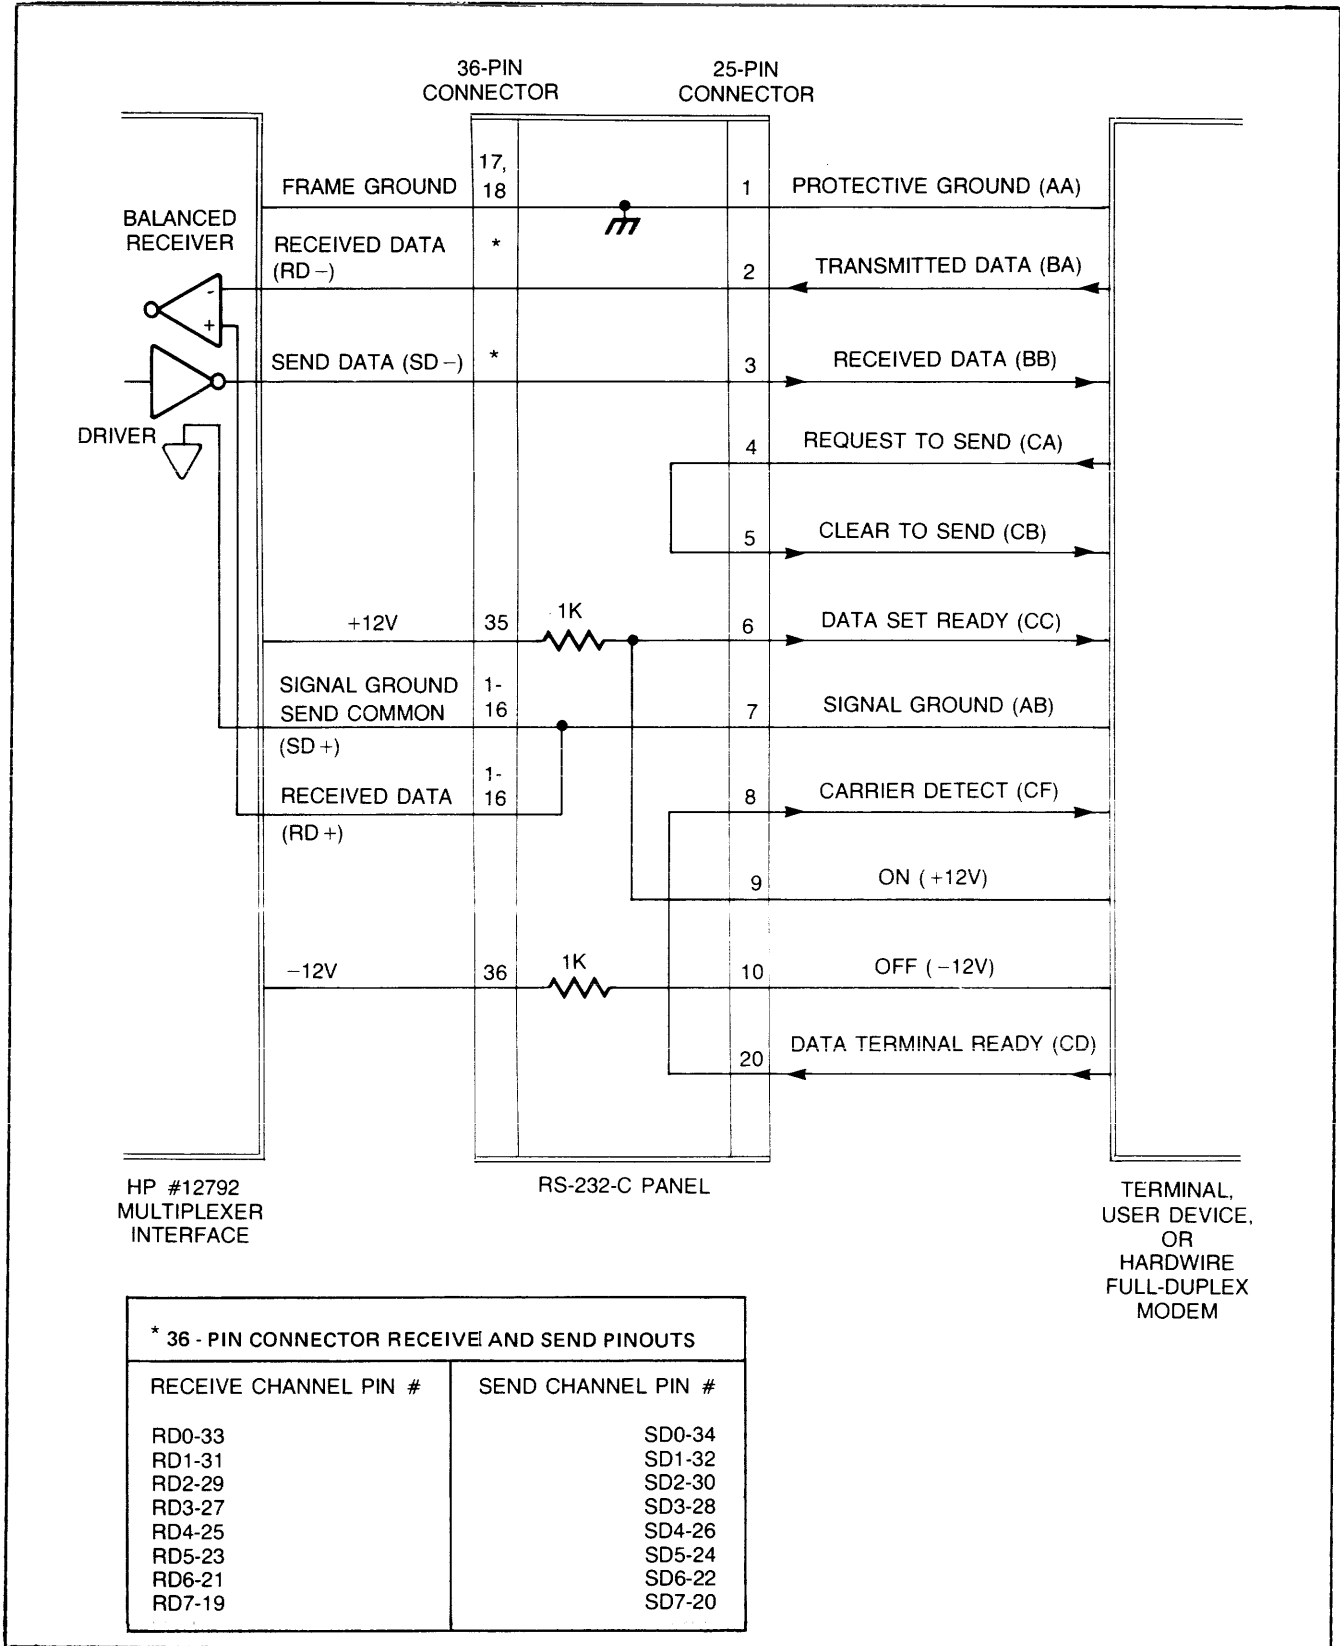

Figure 4-1. MUX Interface to MUX Panel to Device Wiring
Figure 4-1 illustrates the RS-423-to-RS-232-C conversion. The balanced receiver for each channel on the MUX interface is fed from a twisted pair containing a data transmission line, Receive Data (RD-), and a Receive Data common (RD+). The fact that the RD- line carries the actual data signal may be confusing, however the MUX interface design inverts this signal as it enters the interface for use with the Z-80A SIO subsystem. The non-differential signal drivers, Send Data (SD-) and a respective Send Data Common line (SD+) make up the transmit data twisted pair.
RS-232-C panel itself is designed to convert the RS-423 standard, which originates at the MUX interface, to the RS-232-C standard, thus providing the backward compatibility needed for existing terminals and user I/O devices. Figure 4-1 illustrates the Panel-to-RS-232-C device connections. The Panel provides the necessary EIA RS-232-C Modem signal simulation (CA, CB, CC, CD, and CF) to be used if your terminals or devices require it. A device not requiring the extra protocol lines can operate sufficiently using the Transmitted Data (BA) and Received Data (BB) lines.